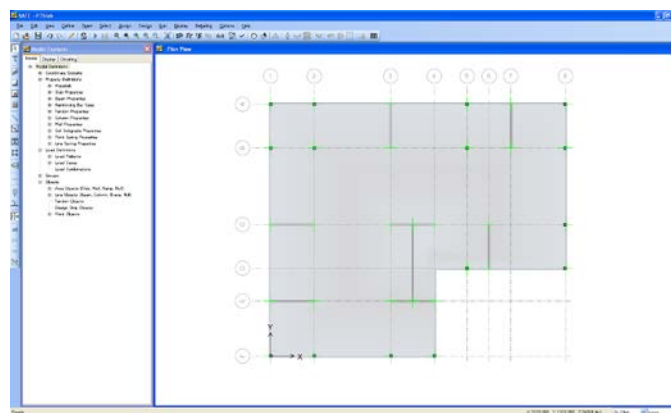

Figure 75 The model after drawing columns and walls
- R. Click on the **Select menu > Select > Pointer/Window** command or press the **Esc** key on the keyboard to exit the Draw Walls command. Your model should look similar to Figure 75.